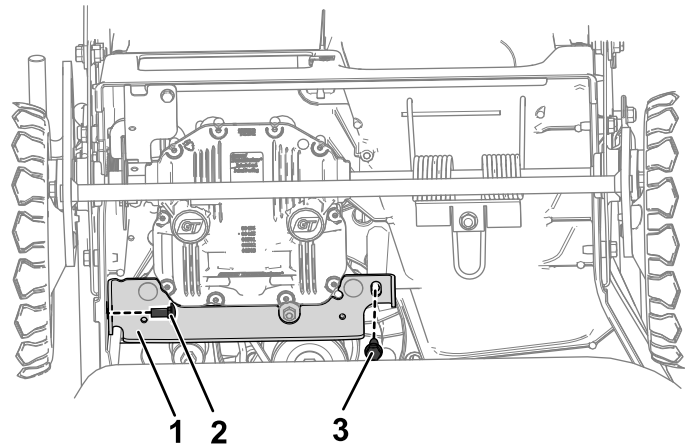

Figure 50
- Remove the hex-head bolt and carriage bolt that are holding the transmission bracket onto the frame (Figure 50).